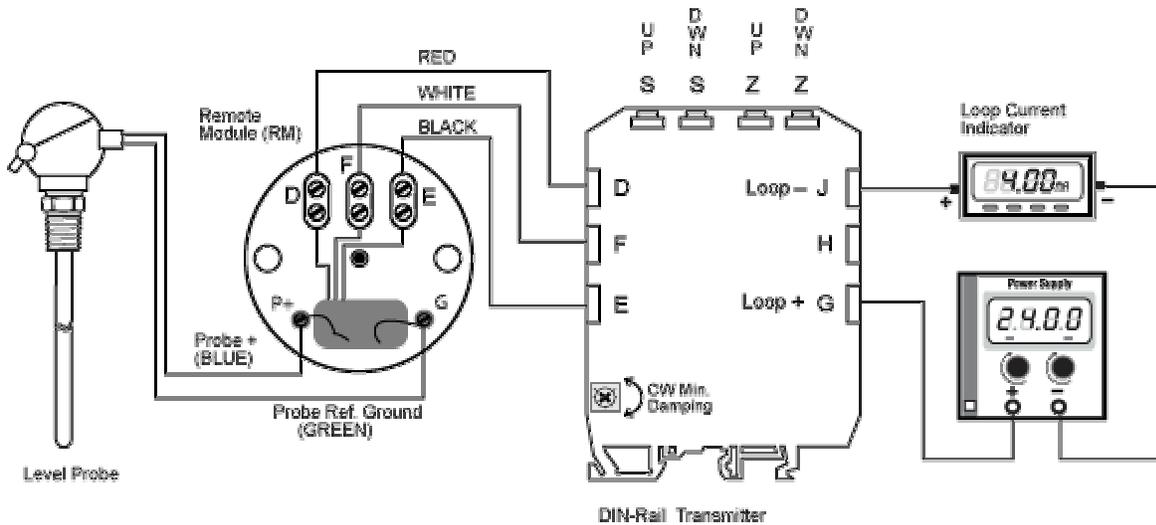

Figure 2. DIN-RAIL Transmitter with Head-Mounted Remote Module
2.3.2 DIN RAIL Remote Transmitter Connections (Refer Figure 2.)